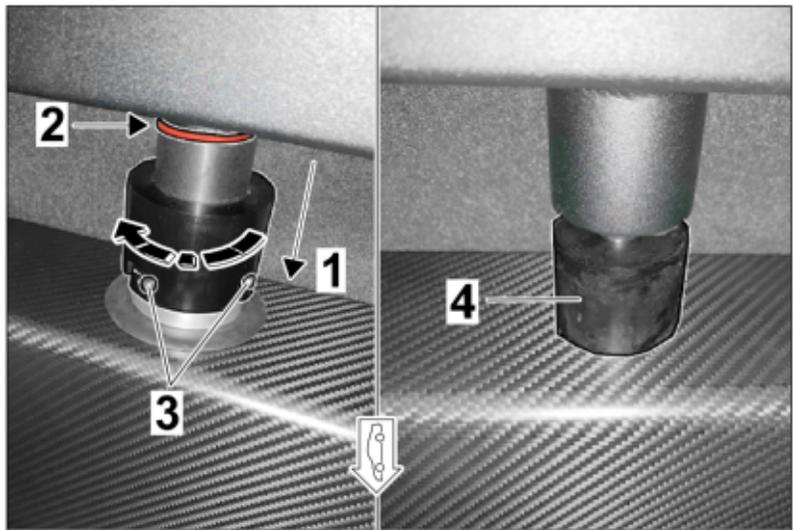

Figure 81
- 10.4.2 Place water tank (new) drain socket on the water tank (standard) intake socket and press it downwards (⇒ *Figure 81 -1-*)
- Correct position of water tank drain / intake sockets ⇒ *Figure 81 -2-*. Water tank (new) drain socket should be positioned “flat” on the water tank (standard) intake socket!
Press water tank (new) with bayonet cap downward and connect it to the water tank (standard) by turning it clockwise (⇒ Figure 81 -3-).
Turn rubber buffer (left side below water tank (new) ⇒ Figure 81 -4-) until it rests on the carbon cover for water tank (standard).